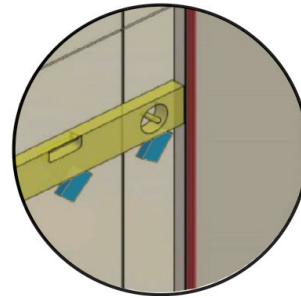

FIG 27.
- Remove plastic backing from stabiliser blocks and press firmly onto wall (**FIG 27**).